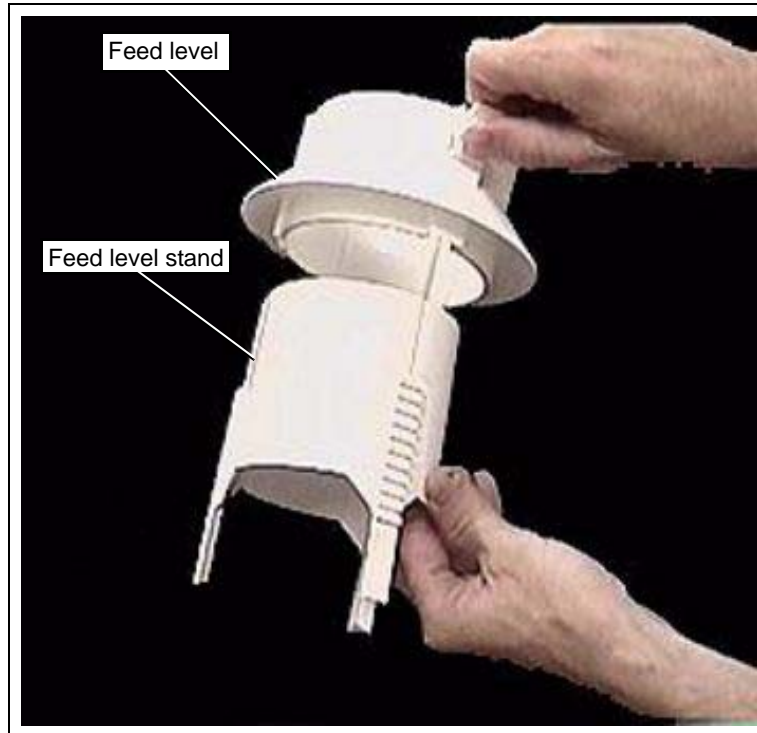

Figure 7H
6. Place the feed level on the feed level stand. (See Figure 7H.)